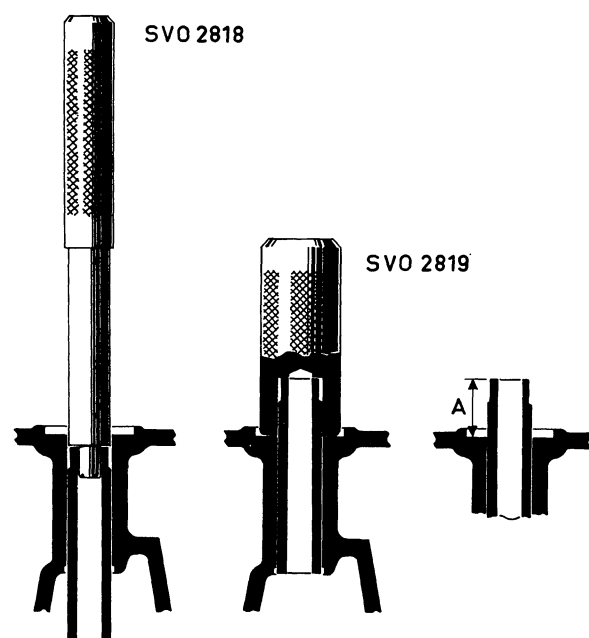

Fig. 2-21. Replacing valve guides
2. Press in the new guides using drift SVO 2819 and a 0.4 mm (0.016") thick washer placed between the tool and cylinder head, see Fig. 2-21.